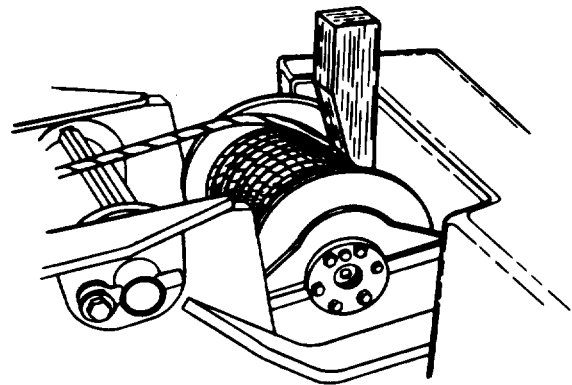
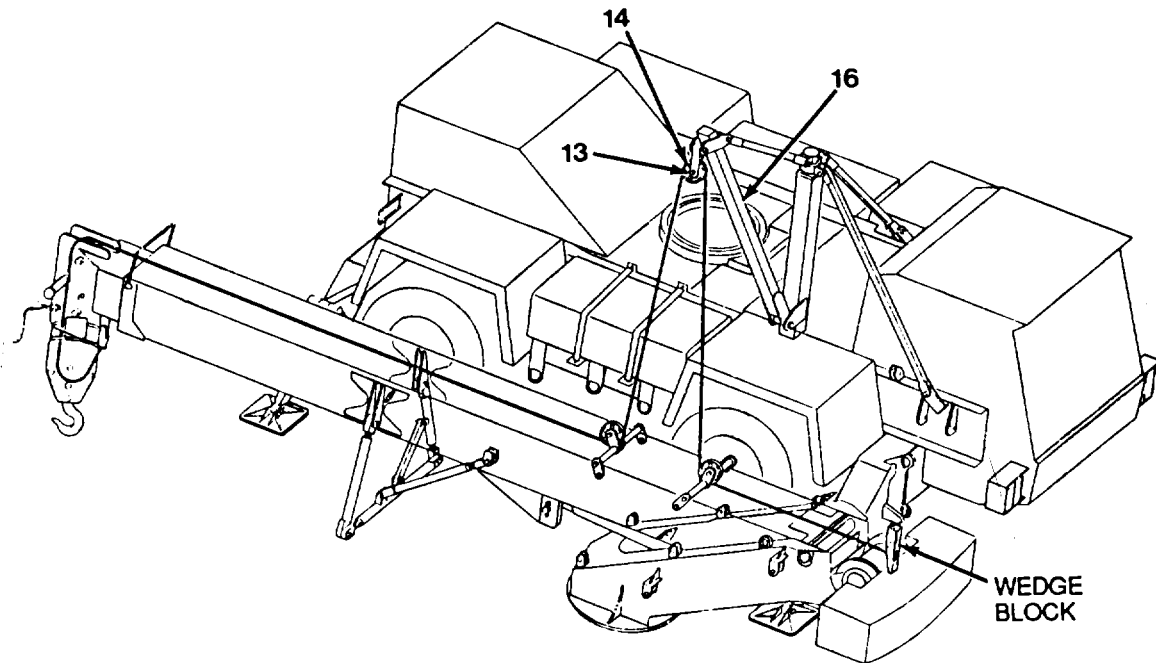

Figure 5-6. Wedge Block in Winch Drum
Figure 5-36 Preparing Upperstructure for Lift
2. Start engine. Lower hook block to ground. Pay out a loop of cable approximately 18 ft (5.49 m) from winch to reach up to sheave clevis at top of lift arm (16, Figure 5-36). Using wedge block, wedge cable to prevent cable unspooling (Figure 5-6).
3. Take loose sheave (14, Figure 5-36) that was removed from lift arm (16) in step 5.a of Preparation for Assembly and insert it in slack of cable.